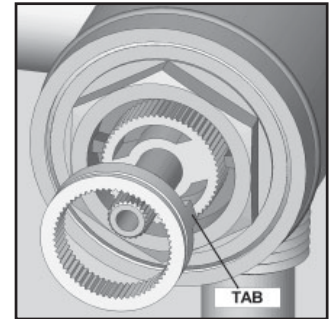

Figure 5
3. **NOTE:** The stop tab on the bottom of the ring (SEE FIGURE 5). The further it is re-oriented in a counter-clockwise direction, the shorter the travel allowed (and thus, the lower the temperature output possible).